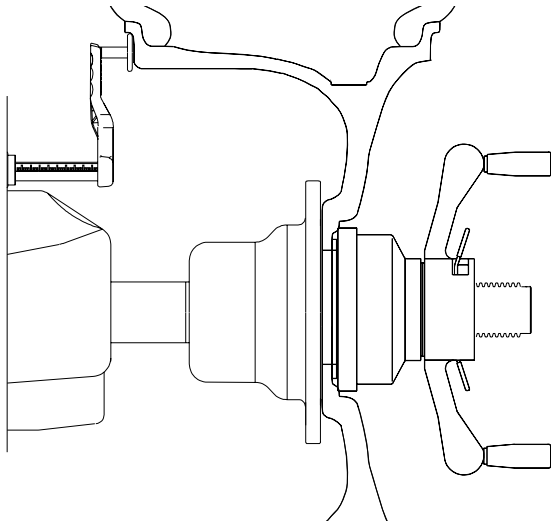

Figure 21
4.5.1 Distance (rim offset) - Grasp the offset gage arm at the end of the shaft and move outward to the edge of the rim, touch the pointer to the rim edge as illustrated in *Figure 21* and hold steady for about a second. Avoid flexing the measurement arm extension. The beeper will sound and the distance values will be entered automatically. Return the arm to its fully in and rest position on the balancer. Do not allow the measurement arm to "dangle" down in front of the balancer.